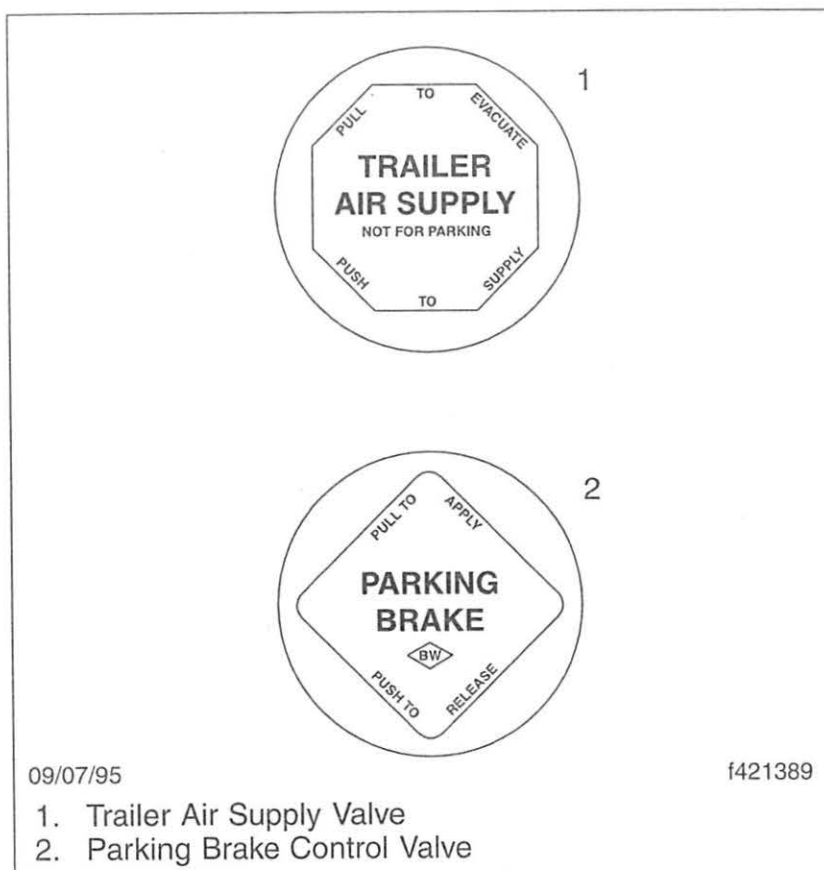

Fig. 11.25, Dash-Mounted Valve Knobs
For vehicles with a trailer air brake hookup, release the parking brakes on the vehicle by pushing in the parking brake control valve knob. See **Fig. 11.25**, Ref. 2. Apply the trailer parking brakes by pulling out the trailer air supply valve knob. See **Fig. 11.25**, Ref. 1.
37. Pull the parking brake control valve knob (**Fig. 11.25**, Ref. 2), with the vehicle on a 20 percent grade (the ramp surface should be made of Portland cement or equivalent). If the parking brakes do not hold the vehicle, repair the parking brake system.